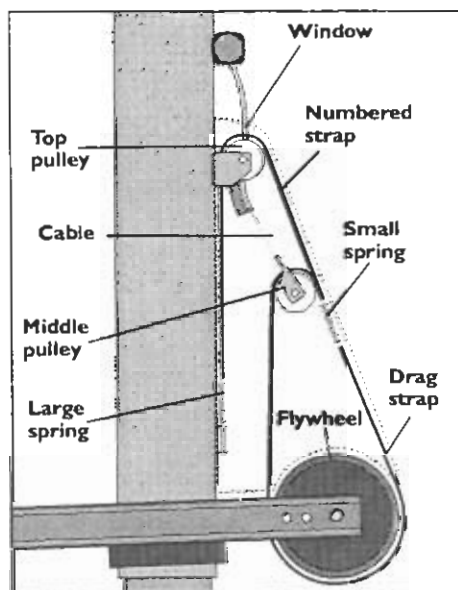

Figure 22
- Pull the drag strap off to one side of the flywheel (Figure 22).
- Disconnect the 3 D-rings and pull off the drag strap (Figure 22).
- Loop the numbered resistance strap, over the top pulley, numbers up, from front to back and attach it to the large spring (Figure 22).